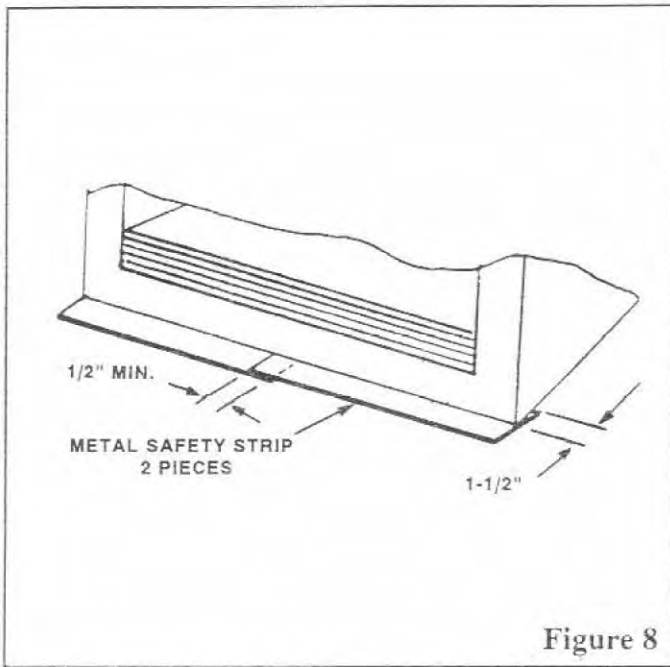

Figure 8
STEP 3: Slide the metal safety strips/shields provided 1-1/2" underneath the fireplace opening as shown in Figure 8. The safety strips/shields should overlap each other by a minimum of a half inch (1/2"). **NOTE:** If you are using a raised platform, a "Z" type safety shield will be required (See Figure 39.)